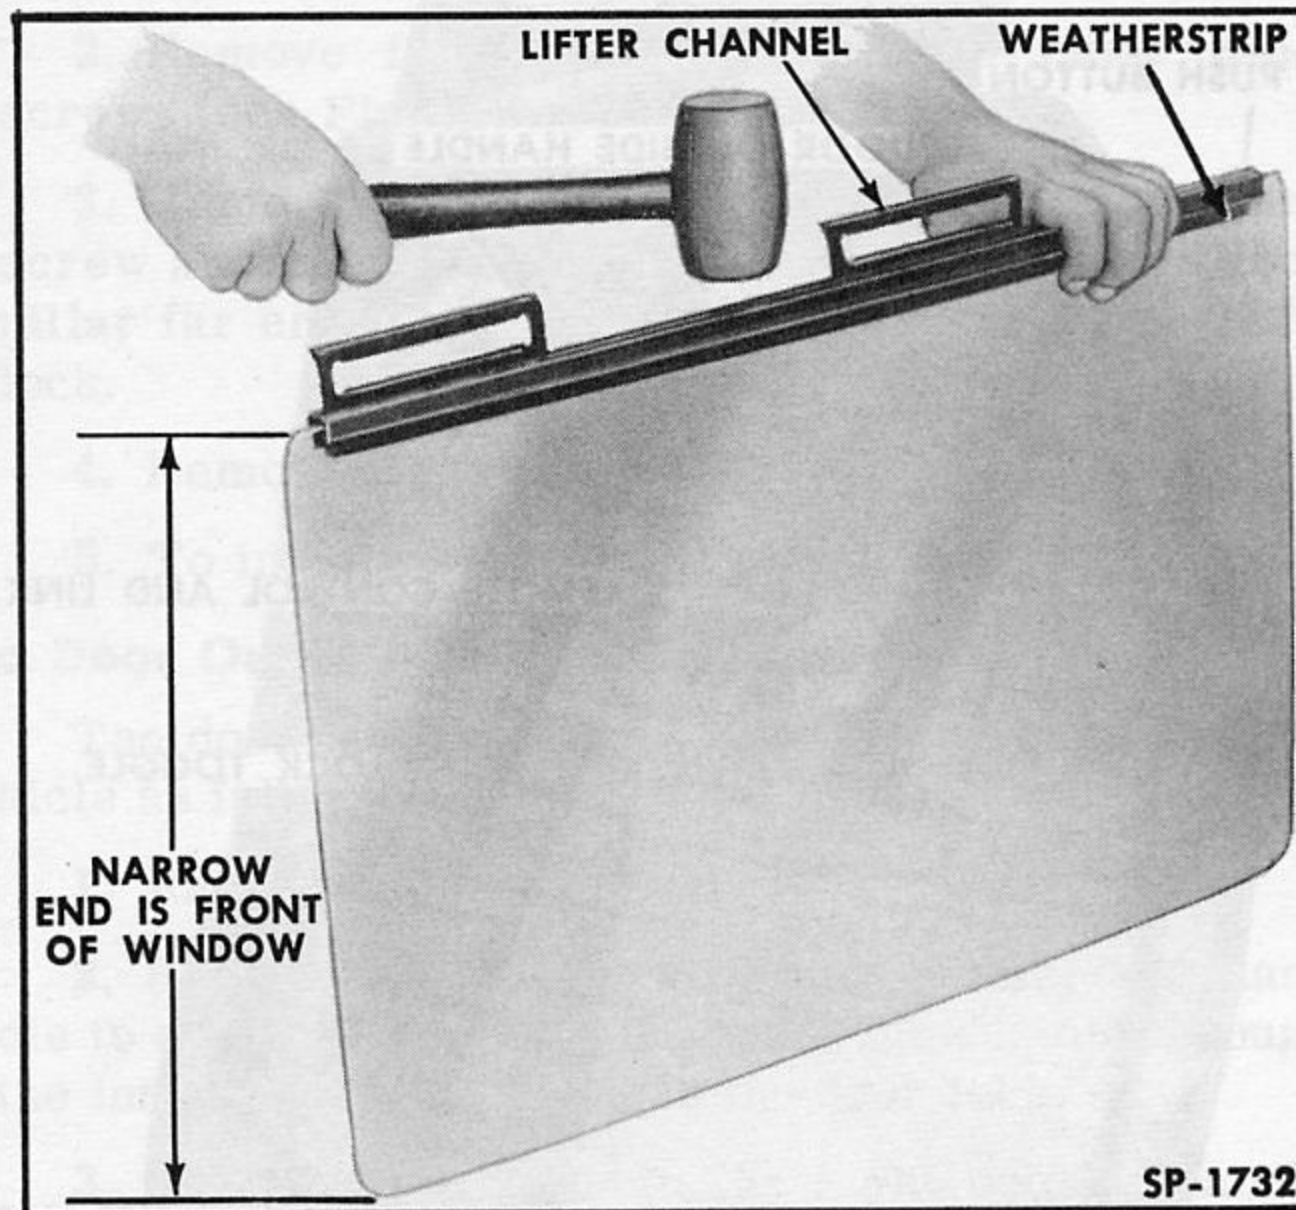

Fig. 232—Installing Door Window Lifter Channel
1. Place a new lower channel weatherstrip on bottom edge of glass and install lifter channel by tapping it in place with a rubber hammer as shown in Fig. 232. Make sure edge of glass on bench is protected from damage while doing this operation. Application of mineral spirits, kerosene or gasoline to weatherstrip will aid in installation of channel.